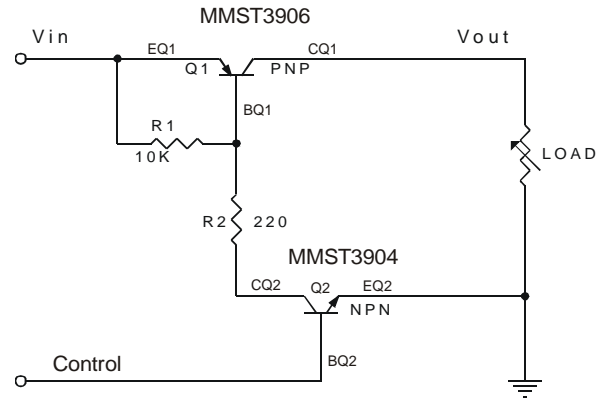

Fig. 16: Example Circuit Schematic
- PNP Transistor (MMST3906) and NPN Transistor (MMST3904) integrated as one in LBN150B01 can be used as a discrete entity for general purpose applications or as a part of a circuit to function as a Load Switch. When it is used as the latter as shown in Fig 16, various input voltage sources can be used as long as they do not exceed the maximum rating of the device. These devices are designed to deliver continuous output load current up to maximum of 150 mA. The use of the NPN as a switch eliminates the need for higher current required to overcome the gate charge in the event an N-MOSFET is used. Care must be taken for higher levels of dissipation while designing for higher load conditions. These devices provides power on demand and also consume less space. It mainly helps in optimizing power usage, thereby conserving battery life in a controlled load system like portable battery powered applications. (Please see Fig. 17 for one example of typical application circuit used in conjunction with a voltage regulator as a part of power management system).